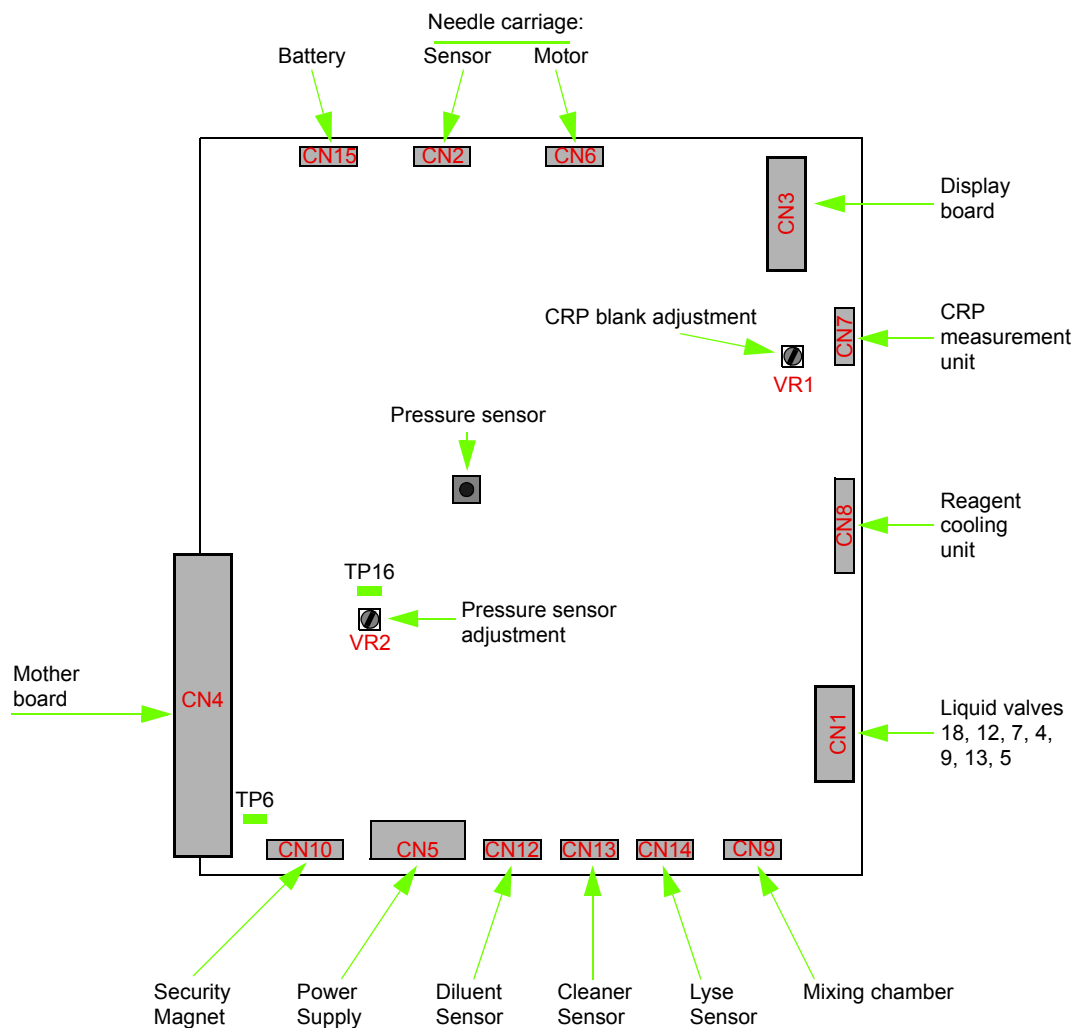

Fig.3: CRP board
- ◆ By means of VR1 on CRP board (See "Fig.3: CRP board, page 7") adjust displayed value to 3800 +/-10.